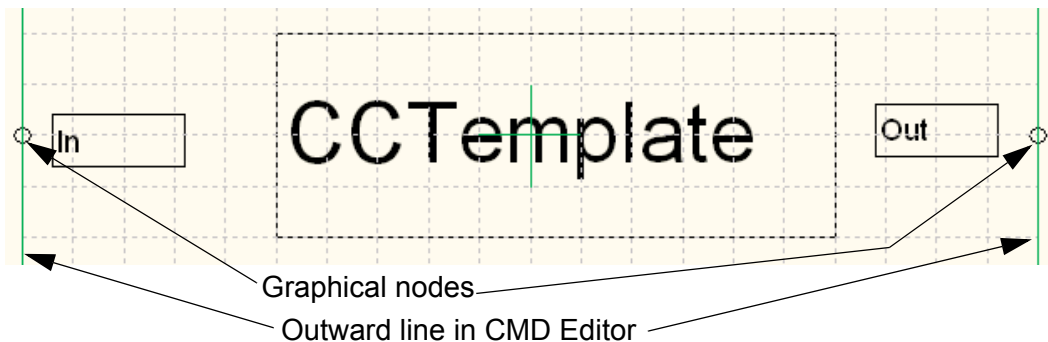
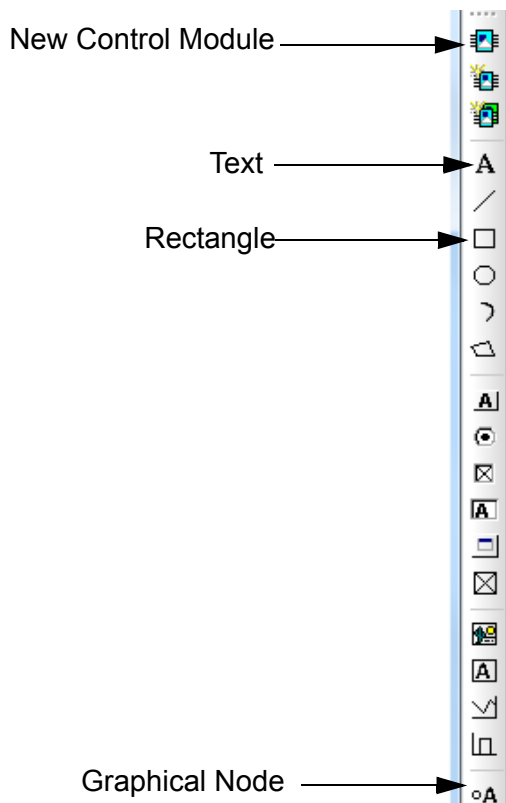

Figure 39. CCTemplate in the CMD Editor
Figure 40. Icon menu in the CMD Editor
After you are done with this subsection your CC Template will contain a name area, two connected graphical nodes in the CMD Editor (Figure 39).
2. Select icon for Rectangle (Figure 40) and mouse-click a rectangle over the outward line (see the outward line in Figure 39).
3. Select icon for Text (Figure 40) and write CCTemplate (Figure 39).
4. Select icon for Graphical Node (Figure 40) and add two nodes on both sides of your Text area (see exact location in Figure 39). Type in parameter **In** and **Out** in the rectangle.
5. Close the CMD Editor when done. The CMD Editor should look like Figure 39.
3. Open the CMD Editor in the Application and select the icon for New Control Module (see Figure 40).